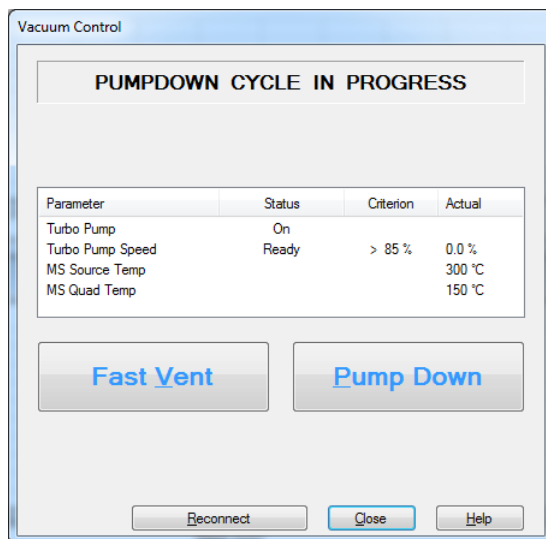

Figure 37 Vacuum control dialog
- 2 In the **Instrument Control** view, **Instrument** menu, select **MS Vacuum Control** to display the **Vacuum Control** dialog. (See Figure 37 on page 114.)